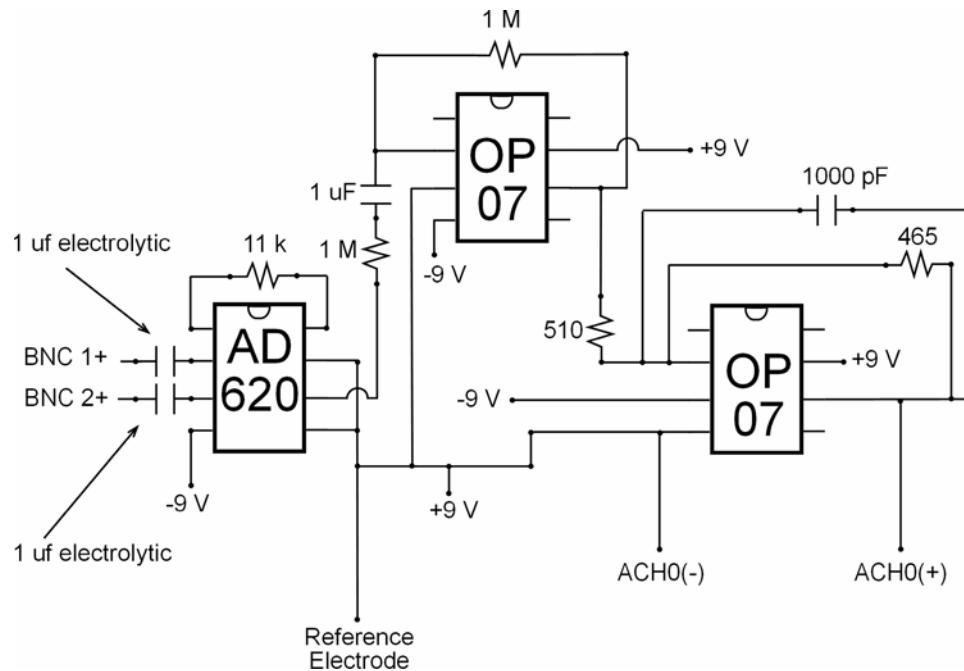

Figure 5-5. Schematic diagram of the ECG circuit
Figure 5-5 provides a schematic outline of the circuit you will build during this lab.
4. Using the provided jumper wire, connect pin 3 of one OP07 chip to the **Ground** connection (see Figure 5-5 on page 5-10 for further information).